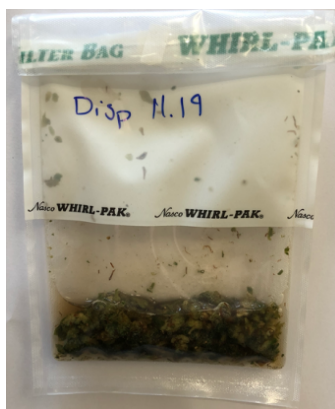

Figure 3: Homogenized cannabis flower and TSB.
- (j) If processing multiple samples, be sure to change gloves between each, to ensure there is no cross contamination between samples during the weighing process. See flower example in Figure 3.